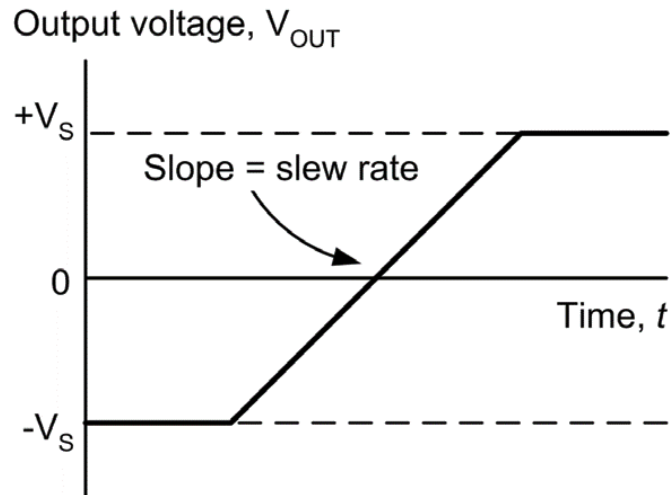

Figure 1.35 Slew rate for an operational amplifier
- Slew rate is the rate of change of output voltage with time, when a rectangular step input voltage is applied (as shown in Fig. 1.35).